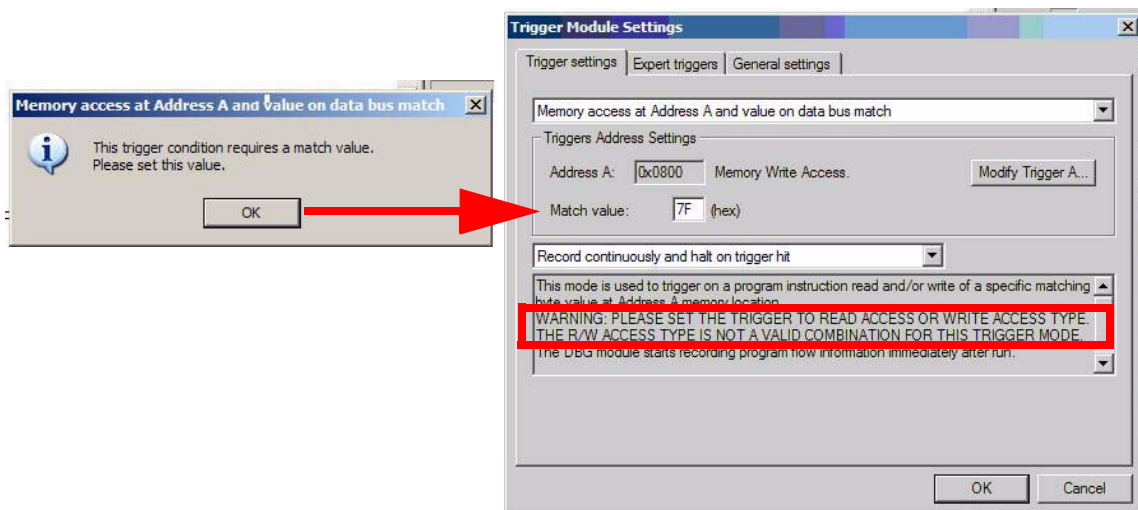

Figure 17. Setting 8-bit Data Value
- To set the 8-bit data value completing the trigger, right click on the memory window and change the trigger settings to memory access at address A and value on data bus match. This prompts for a value. The value should be altered in the match value box (Figure 17).